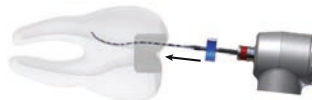

Figure 2
4. Place the XP-F into the canal by lining up the tip facing the cusp, insert slightly into the canal (Fig. 2). Then start the motor and slowly thread the XP-F into the canal.